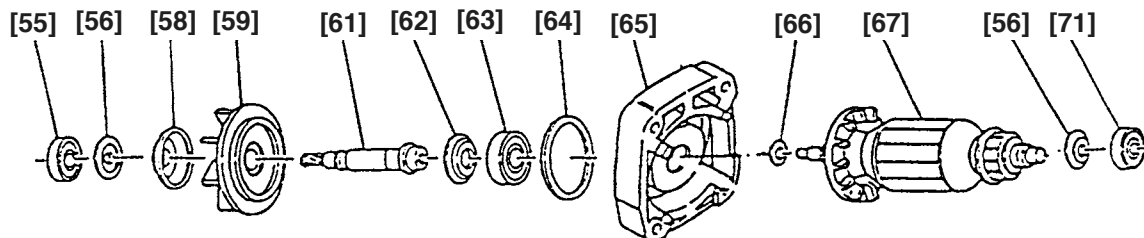

Fig. 18
(2) When assembling Housing [72], Casing (A) [65], Casing (B) [57] and Gear Cover [10], at first perform the assembling of dust collection mechanism ass'y [55], [56], [58], [59] and [61] to [65] and the armature section ([66], [67], [56] and [71]) as illustrated below. Then, reassemble the Housing [72], Casing (B) [57] and the Gear Cover [10] (Fig. 18). This procedure will significantly facilitate reassembly.